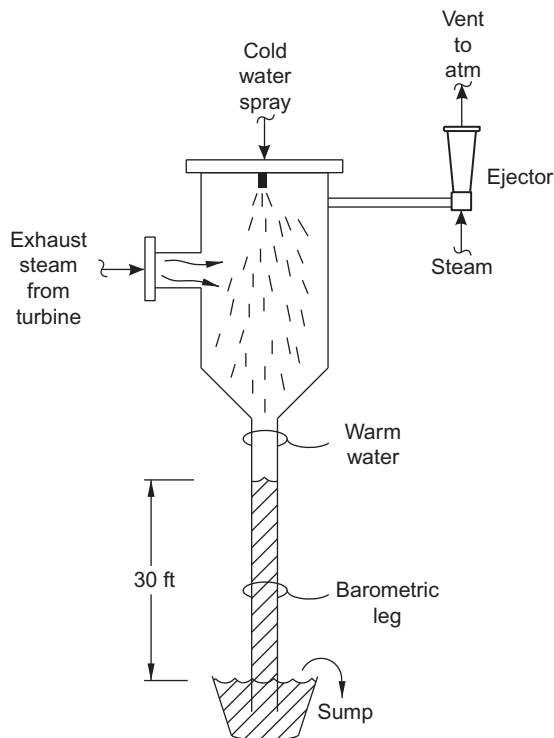

FIG. 26.1 Old style barometric condenser.
- The low horsepower output from the turbine was due to the high turbine exhaust pressure to the vacuum surface condenser (see Fig. 26.1).
At my Sulfuric Acid Regeneration Plant in Texas City that I operated in 1974, the blower was driven by a steam turbine that exhausted to a barometric condenser. I’ve shown a sketch of it in Fig. 26.1. It was a trouble-free piece of equipment, unlike other items in that plant that I still recall with loathing after 43 years.